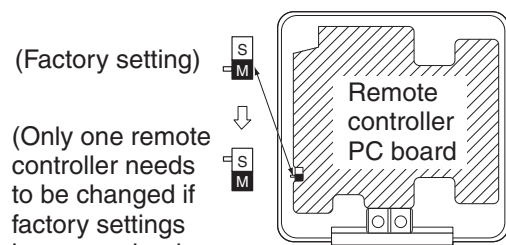

Fig. 29
- (2) Turn the **MAIN/SUB changeover** switch on one of the two remote controller PC boards to “S”. (Leave the switch of the other remote controller set to “M”.) (Refer to Fig. 29)